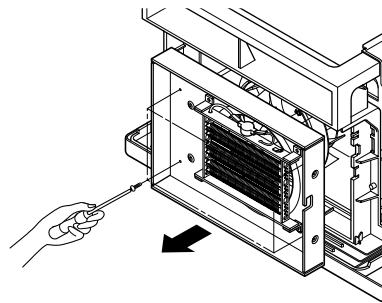

FIG. 28
(See Fig. 28, at Electric Heater Model only)
6. Remove the 4 screws which fasten the orifice. (See Fig. 28)
7. Remove the orifice. (See Fig. 28)